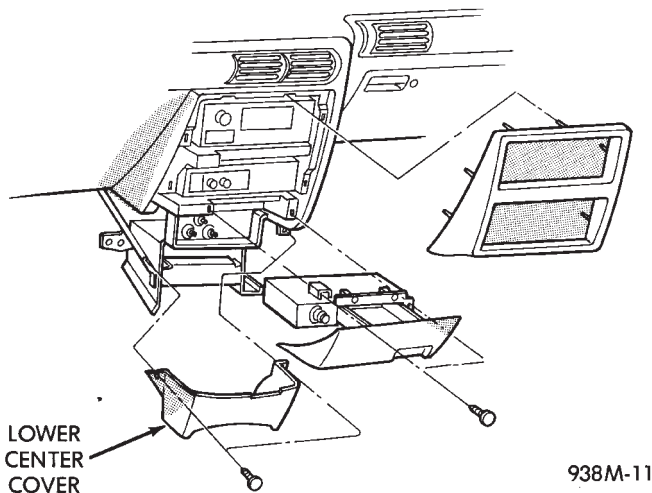

Fig. 14 Lower Center Cover
(2) Remove two lower center cover retaining screws and remove trim cover (Fig. 14).